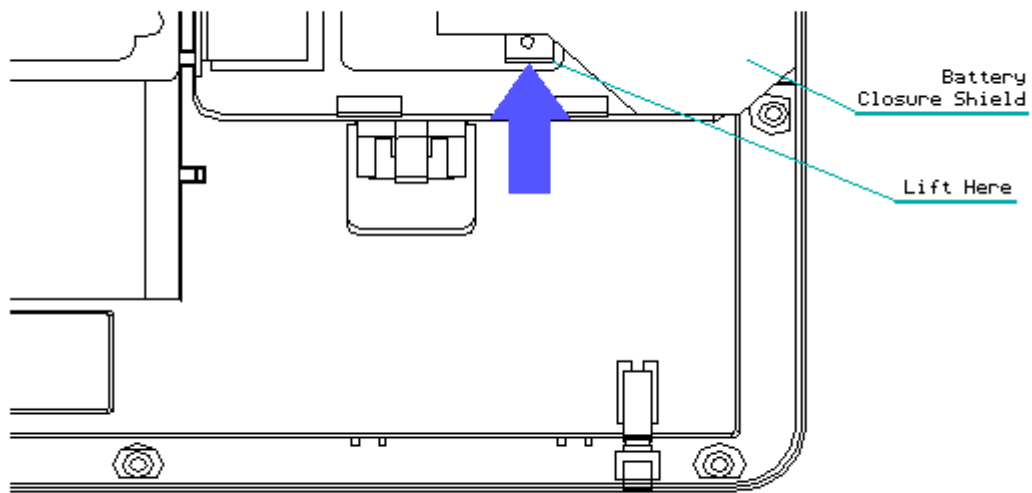

Figure 3-29. Releasing the Battery Eject Spring
4. Working from inside the back cover and taking care not to disturb the battery shield, use a small, flat-blade screwdriver to lift the eject spring tab off of the boss on the back cover (Figure 3-29).